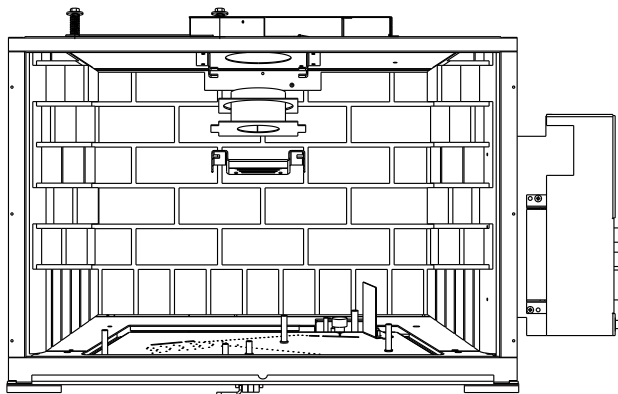

Figure 9 - Front View
2. Lightly tap on flange of exhaust baffle assembly towards you until disengaged. Remove baffle, manifold and gasket from unit. *Figure 9*